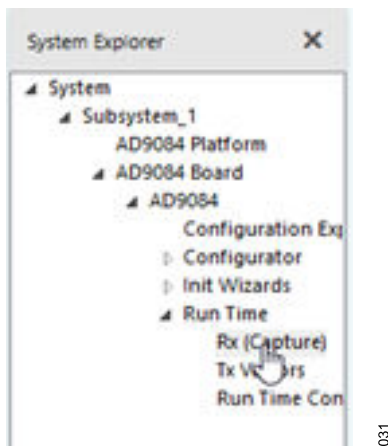

Figure 30. Rx Capture From System Explorer
- ADC **Rx Capture** can also be accessed through System Explorer (see Figure 30).